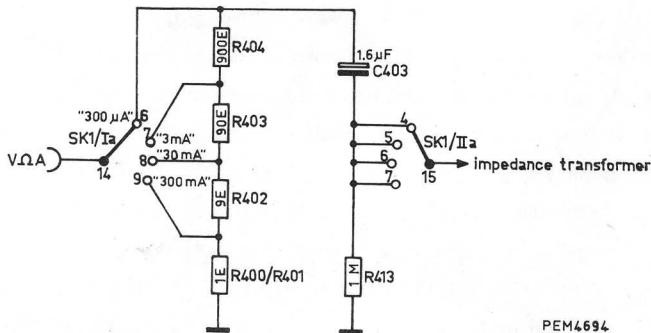

Fig. 11. AC current circuit
5. AC current circuit (Fig. 11)